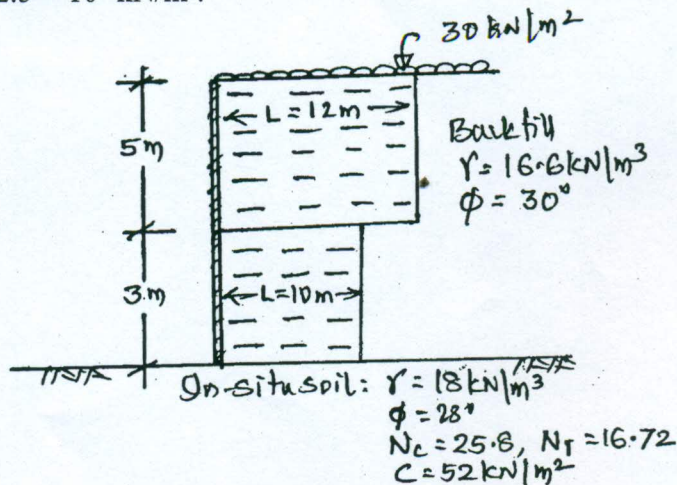

Fig.Q4(b)
- b. The following Fig.Q4(b) shows a retaining wall with steel ties. The properties of soil are shown in figure. Check the external stability of the wall given the soil-tie friction angle = 20° . The total height of the wall is 8 m and allowable bearing pressure of soil is 250 kPa. A surcharge of 30 kPa acts in top of the backfill. The yield strength of reinforcement is 2.5×10^5 kN/m².